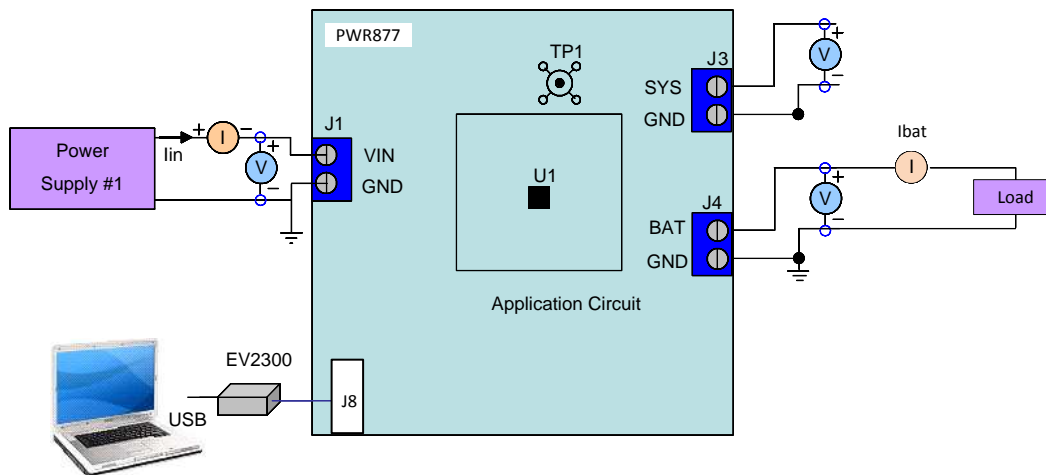

Figure 1. Original Test Setup for BQ25601EVM and BQ25601DEVM
- Turn on Load #1, set to constant voltage mode, and output to 2.5 V. Turn off (disable) the load. Apply the load in series with a current meter (multimeter), ground side to J4 (BAT and GND) as shown in Figure 1.